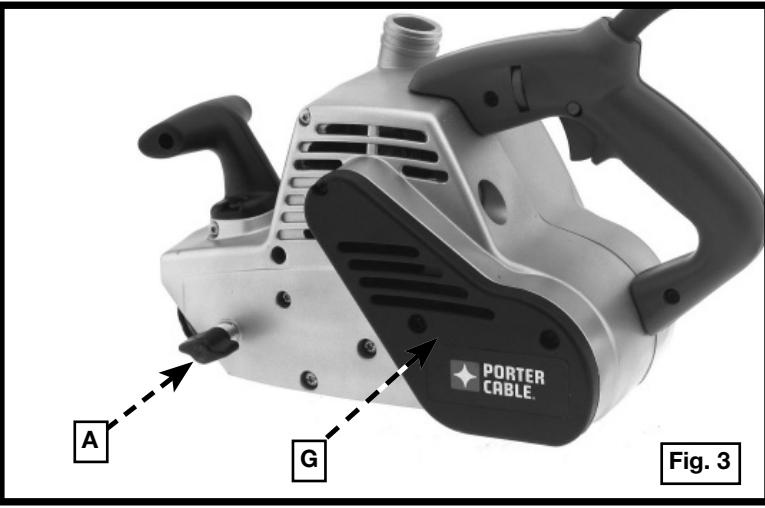

Fig. 3
CAUTION: To reduce the risk of injury, check to see that the belt guard (G) Fig. 3 is in place, secured, and working correctly.
1. Turn the tool over, rest the tool on its front handle, and grasp the rear handle with your left hand. Rest your ring finger and little finger on the trigger (Fig. 3).
3. Turn the belt aligning screw (A) Fig. 3 in either direction until the edge of the belt is even with the outer edge of the rear rubber-covered pulley. The edge of the belt will extend beyond the edge of the front pulley.